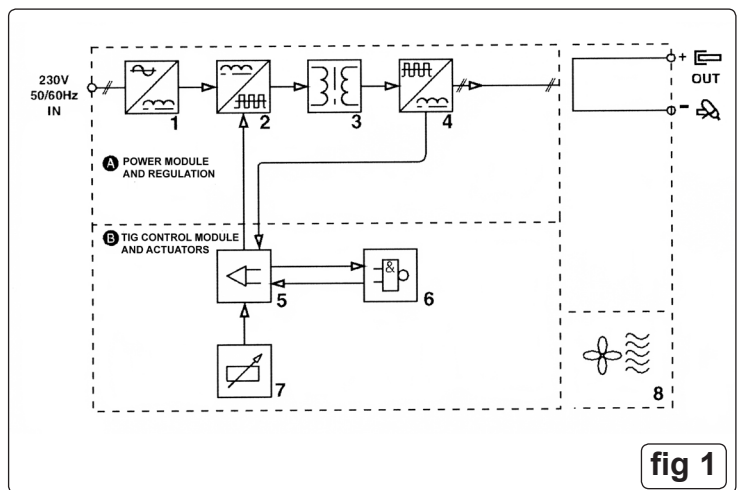

fig 1
2.4. CIRCUIT SYSTEM DESCRIPTION (Refer to fig 1).